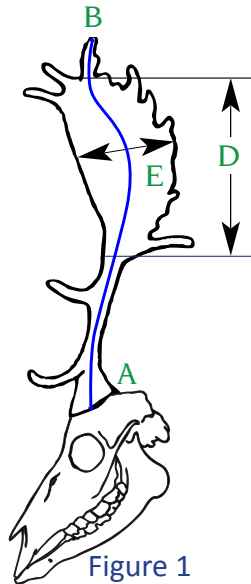

Figure 1
1. Measure the length of each antler on the outside curve from the lower edge of the burr (coronet) to the tip of the main beam. (Figure 1, A–B) Measure on the side of the burr at the lower edge, on the point that lies between the eye socket and the ear canal. In some cases a deer burr will hardly be any more in circumference than the main beam; in others it protrudes significantly like the top part of a cork of a champagne bottle. If the burr protrudes outward from the main beam, the tape measure must not be pressed into the 90-degree corner where the burr meets the beam; rather the tape measure must span this distance. (Figure 2)
Follow the natural curve on the center of the palm. (Figure 1) The center can be found by measuring the width of the palm two or three times from top to bottom and marking the center with a pencil. The tip is that tine that protrudes farthest and, thus, creates the highest score. (Figure 1, A–B) In many cases that tine is the foremost point on the top of the palmation, but sometimes the tip can be a tine toward the front or rear. (Figures 1 & 3, A–B)